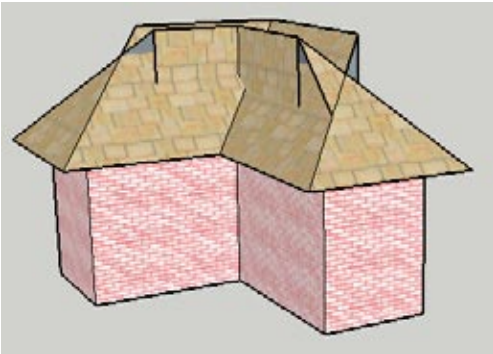

Figure 4-46
5. Select the top face of the building as the Follow Me path. Then use Follow Me to extrude the roof face around the building (Figure 4-46).